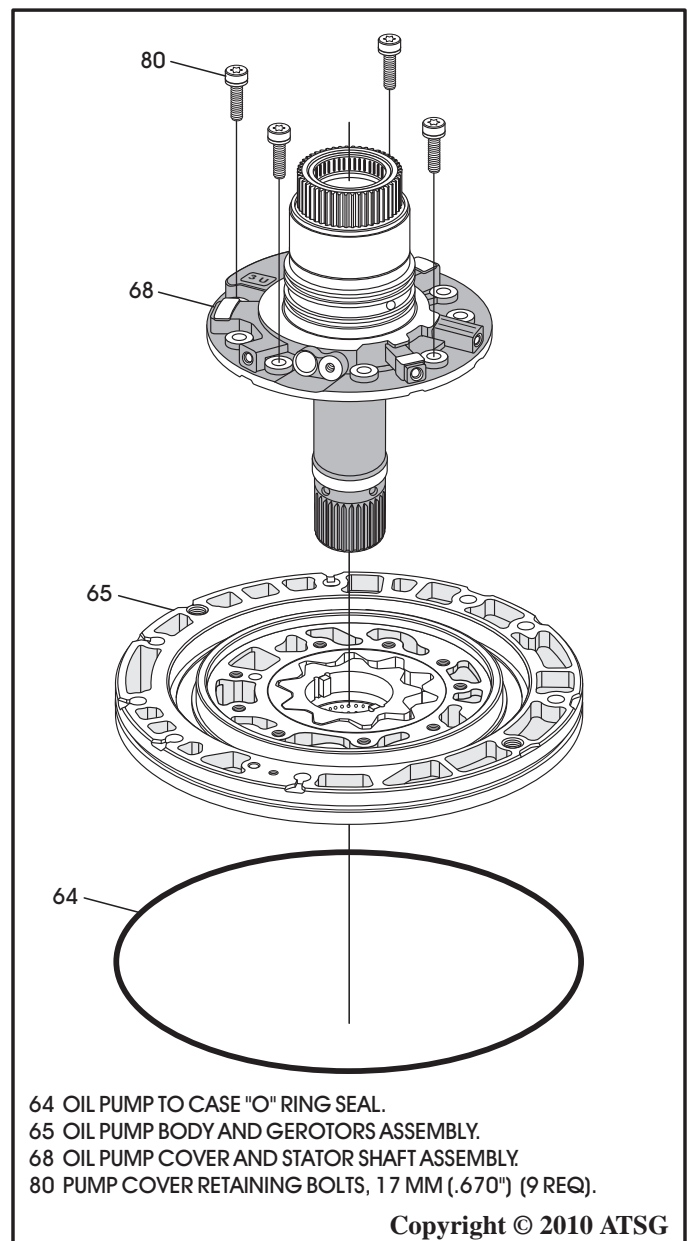

Figure 160
12. Install the pump cover into the pump body, as shown in Figure 160, using only four bolts in the locations shown and hand tighten only.
13. Install new oil pump body to case "O" ring seal, as shown in Figure 160.